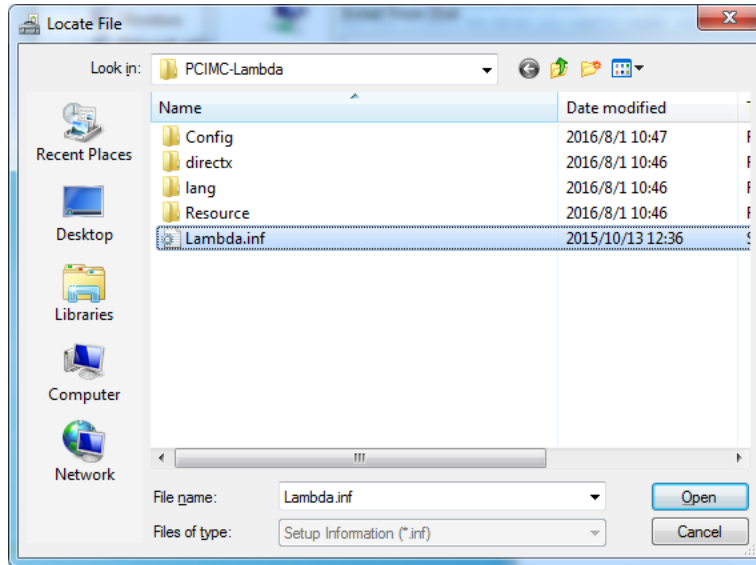

Fig. 1-7 Find driver location-3
5) Click the [Browse] button in dialog box "Locate File", and select the target .inf file, shown as Fig. 1-7.